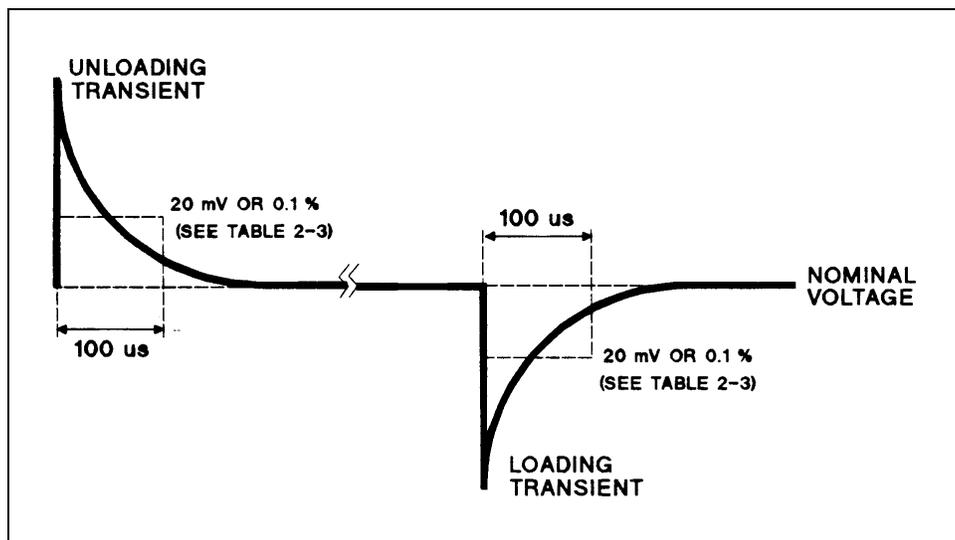

Figure 2-2. Transient Response Wavetorm
- Adjust the oscilloscope for a waveform similar to that in Figure 2-2.